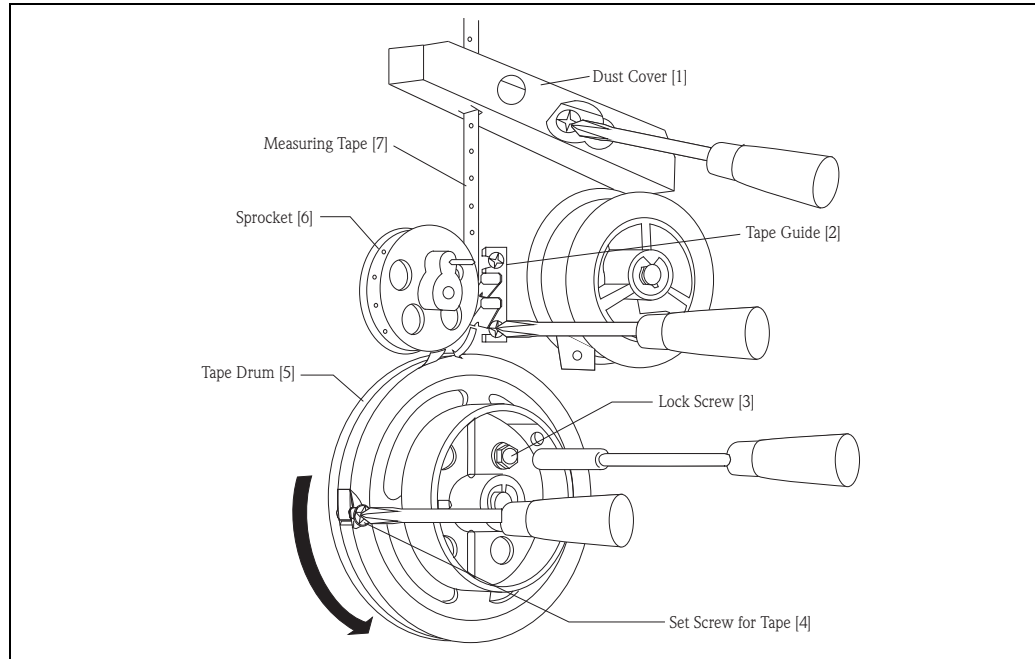

Figure 35: Tape Drum
1. Turn the LT tape drum [5] in the direction indicated by arrow to put tension on the measuring tape (refer to Figure 35).